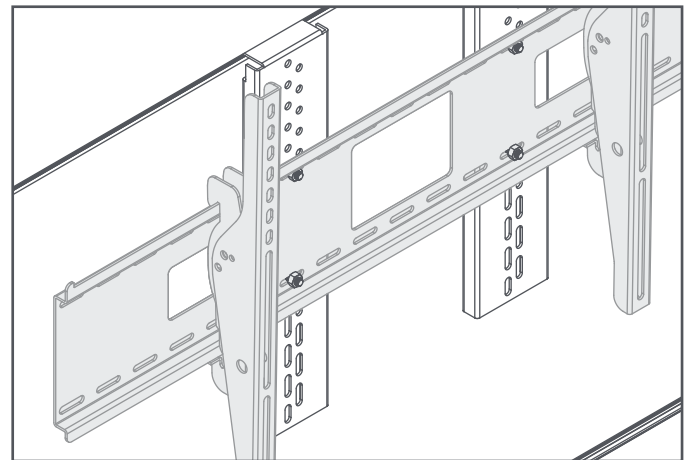

Figure 2. Wall Mount Assembly Detail.
- The Wall Mount Bracket supplied “by others” (shaded color - Figure 2) is suited for the specified TV Monitor.